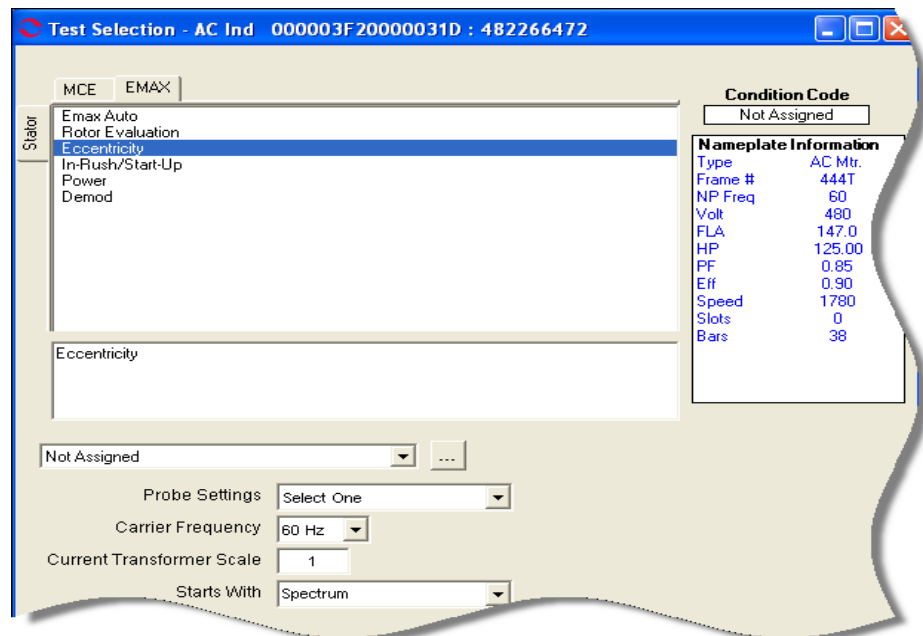

Figure 6-22: Eccentricity Test Selection Window
4. Select the Test Selection icon  on the toolbar. The Test Selection window, shown in Figure 6-22 opens.